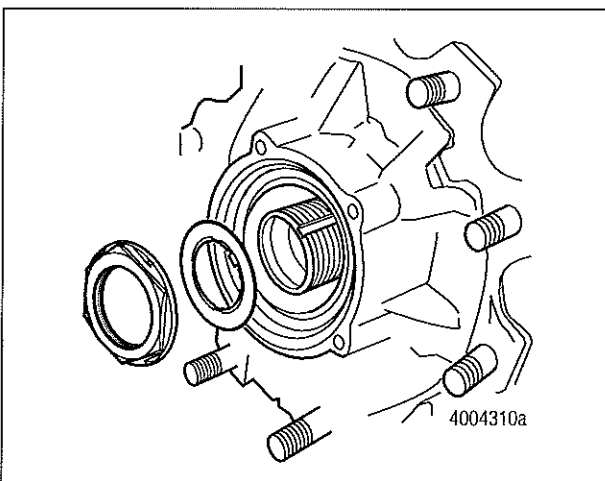

Figure 6
8. Wear gloves to protect your hands from sharp edges on the retaining washer. Remove the spindle nut and retaining washer. Due to the high installation torque, a torque multiplier is recommended for removing the spindle nut. Figure 6.